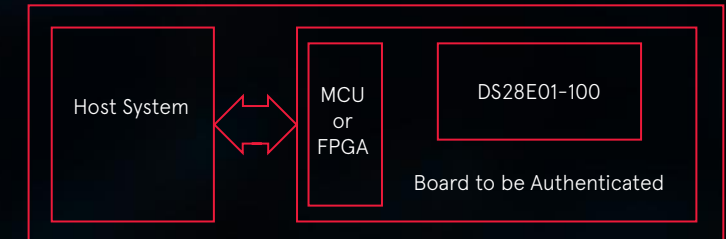

Figure 6 - A hardware authentication example using the DS28E01-100.
- Verification of hardware authenticity. See Figure 6.